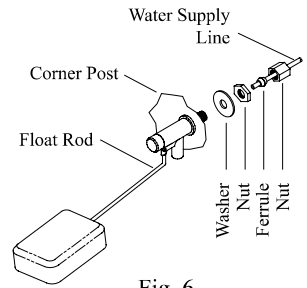

Fig. 6
- **Install float valve.** Install valve in the provided hole in corner post (Fig. 6) and attach water supply line.
- **Fill pan.** Allow water to fill to within 1" of the top of the overflow pipe and adjust float to maintain this water level. This can be accomplished by bending the float rod (Fig. 6).